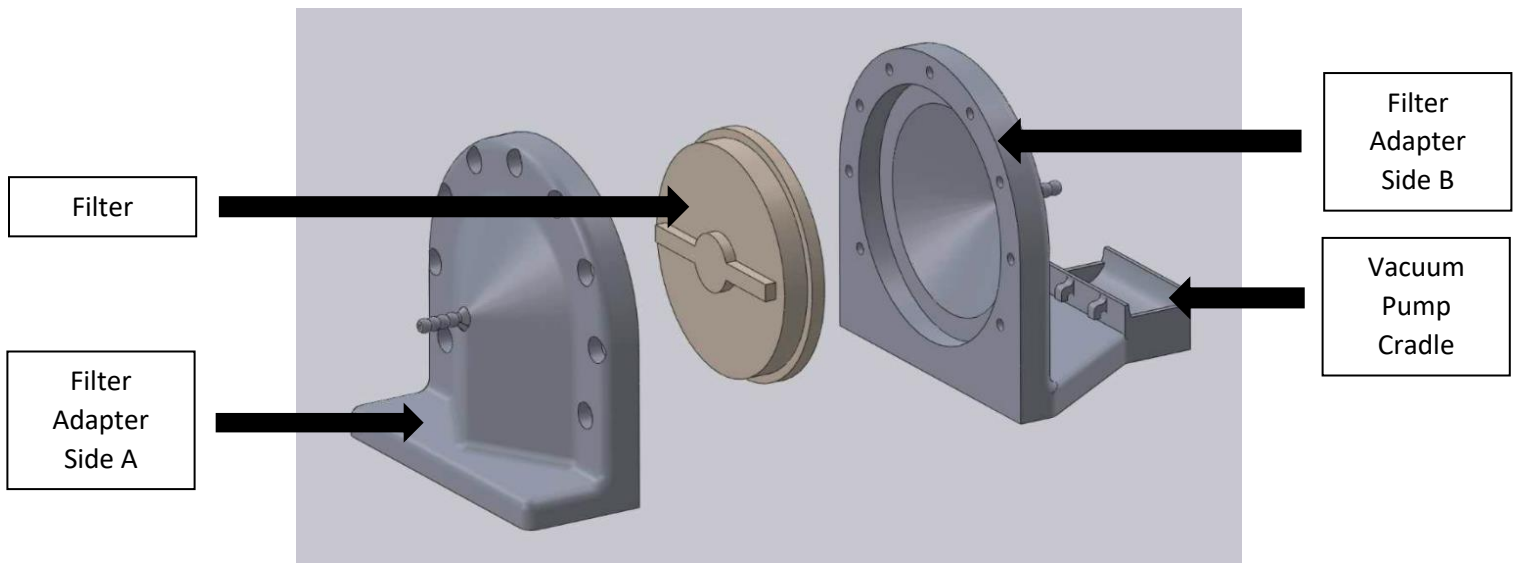

Figure 15: Exploded view of filter adapter and filter
tubing largely depends on the dimensions of the testing and operating rooms, as the tubing begins at the nose cone and travels from the operation room to the testing room where the evacuation system is placed. The adapter is 3D printed out of two pieces of PLA that are secured together using seven 8-32 bolts. The two separate pieces are labeled A and B in order to distinguish between the two. Within the adapter, a replacement filter as seen in Figure 15 manufactured by WSTA for models W050, W050D, W050S, and W050T is used to filter out unwanted contaminants. The filter has a circumference of 3.93 inches and a depth of 0.67 inches and contains a HEPA filter and an activated charcoal filter, enabling it to filter out 99% of particles that have a size greater than or equal to 0.3 micrometers. The filter is secured into place using grooves on the adapter, and an O ring is also included to ensure a snug fit. The exit tubing provided is made out of silicone, but any type of tubing that fits onto the adapter can be used. The length of this tubing also depends on the dimensions of the testing room.
2. Place the filter into side B of the filter adapter such that it rests in the circular inset as seen in Figure 15